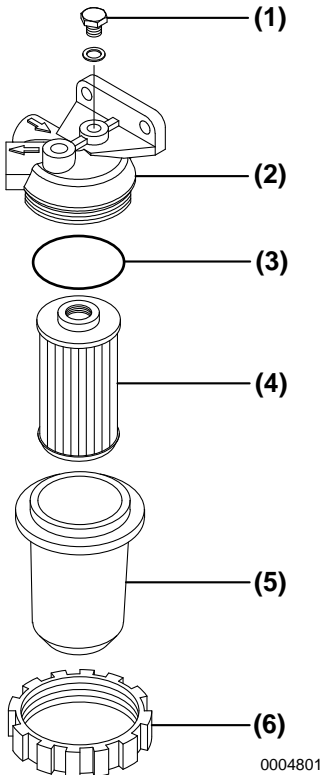

Figure 6
3. Loosen the retaining ring (**Figure 6, (6)**) and remove the filter housing (**Figure 6, (5)**) and drain off any water or sediment collected inside.
4. After draining, tighten the air bleed screw (**Figure 6, (1)**).